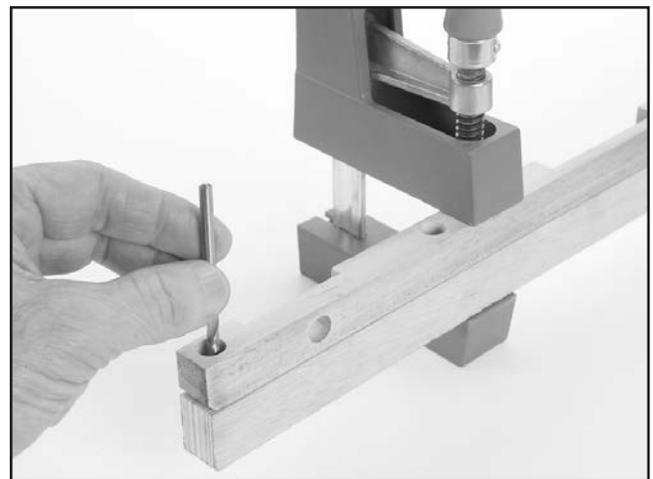

Figure 86. Marking location for mounting holes in new insert.
6. Use the included table insert as a template, as shown in **Figure 86**, to mark the mounting holes on the new table insert. (Clamping the pieces together while you do this will allow you to ensure the hole spacing is exact.)